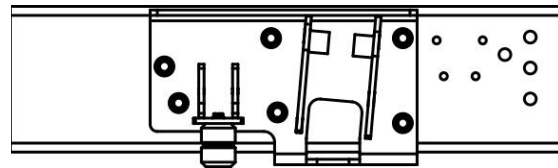

Figure 16. Driver Side (LH) Upper Strut Mount Installation.
- Using the holes drilled in the *Frame Preparation* step, loosely attach the LH Upper Strut Mount and Track Rod Mount to the frame located just behind and above the rear axle using (6) 5/8"-11 x 2" Hex Flange Bolts and (6) 5/8"-11 Locking Flange Nuts. Refer to Figure 16. Note orientation of the Track Rod Mount as shown above.